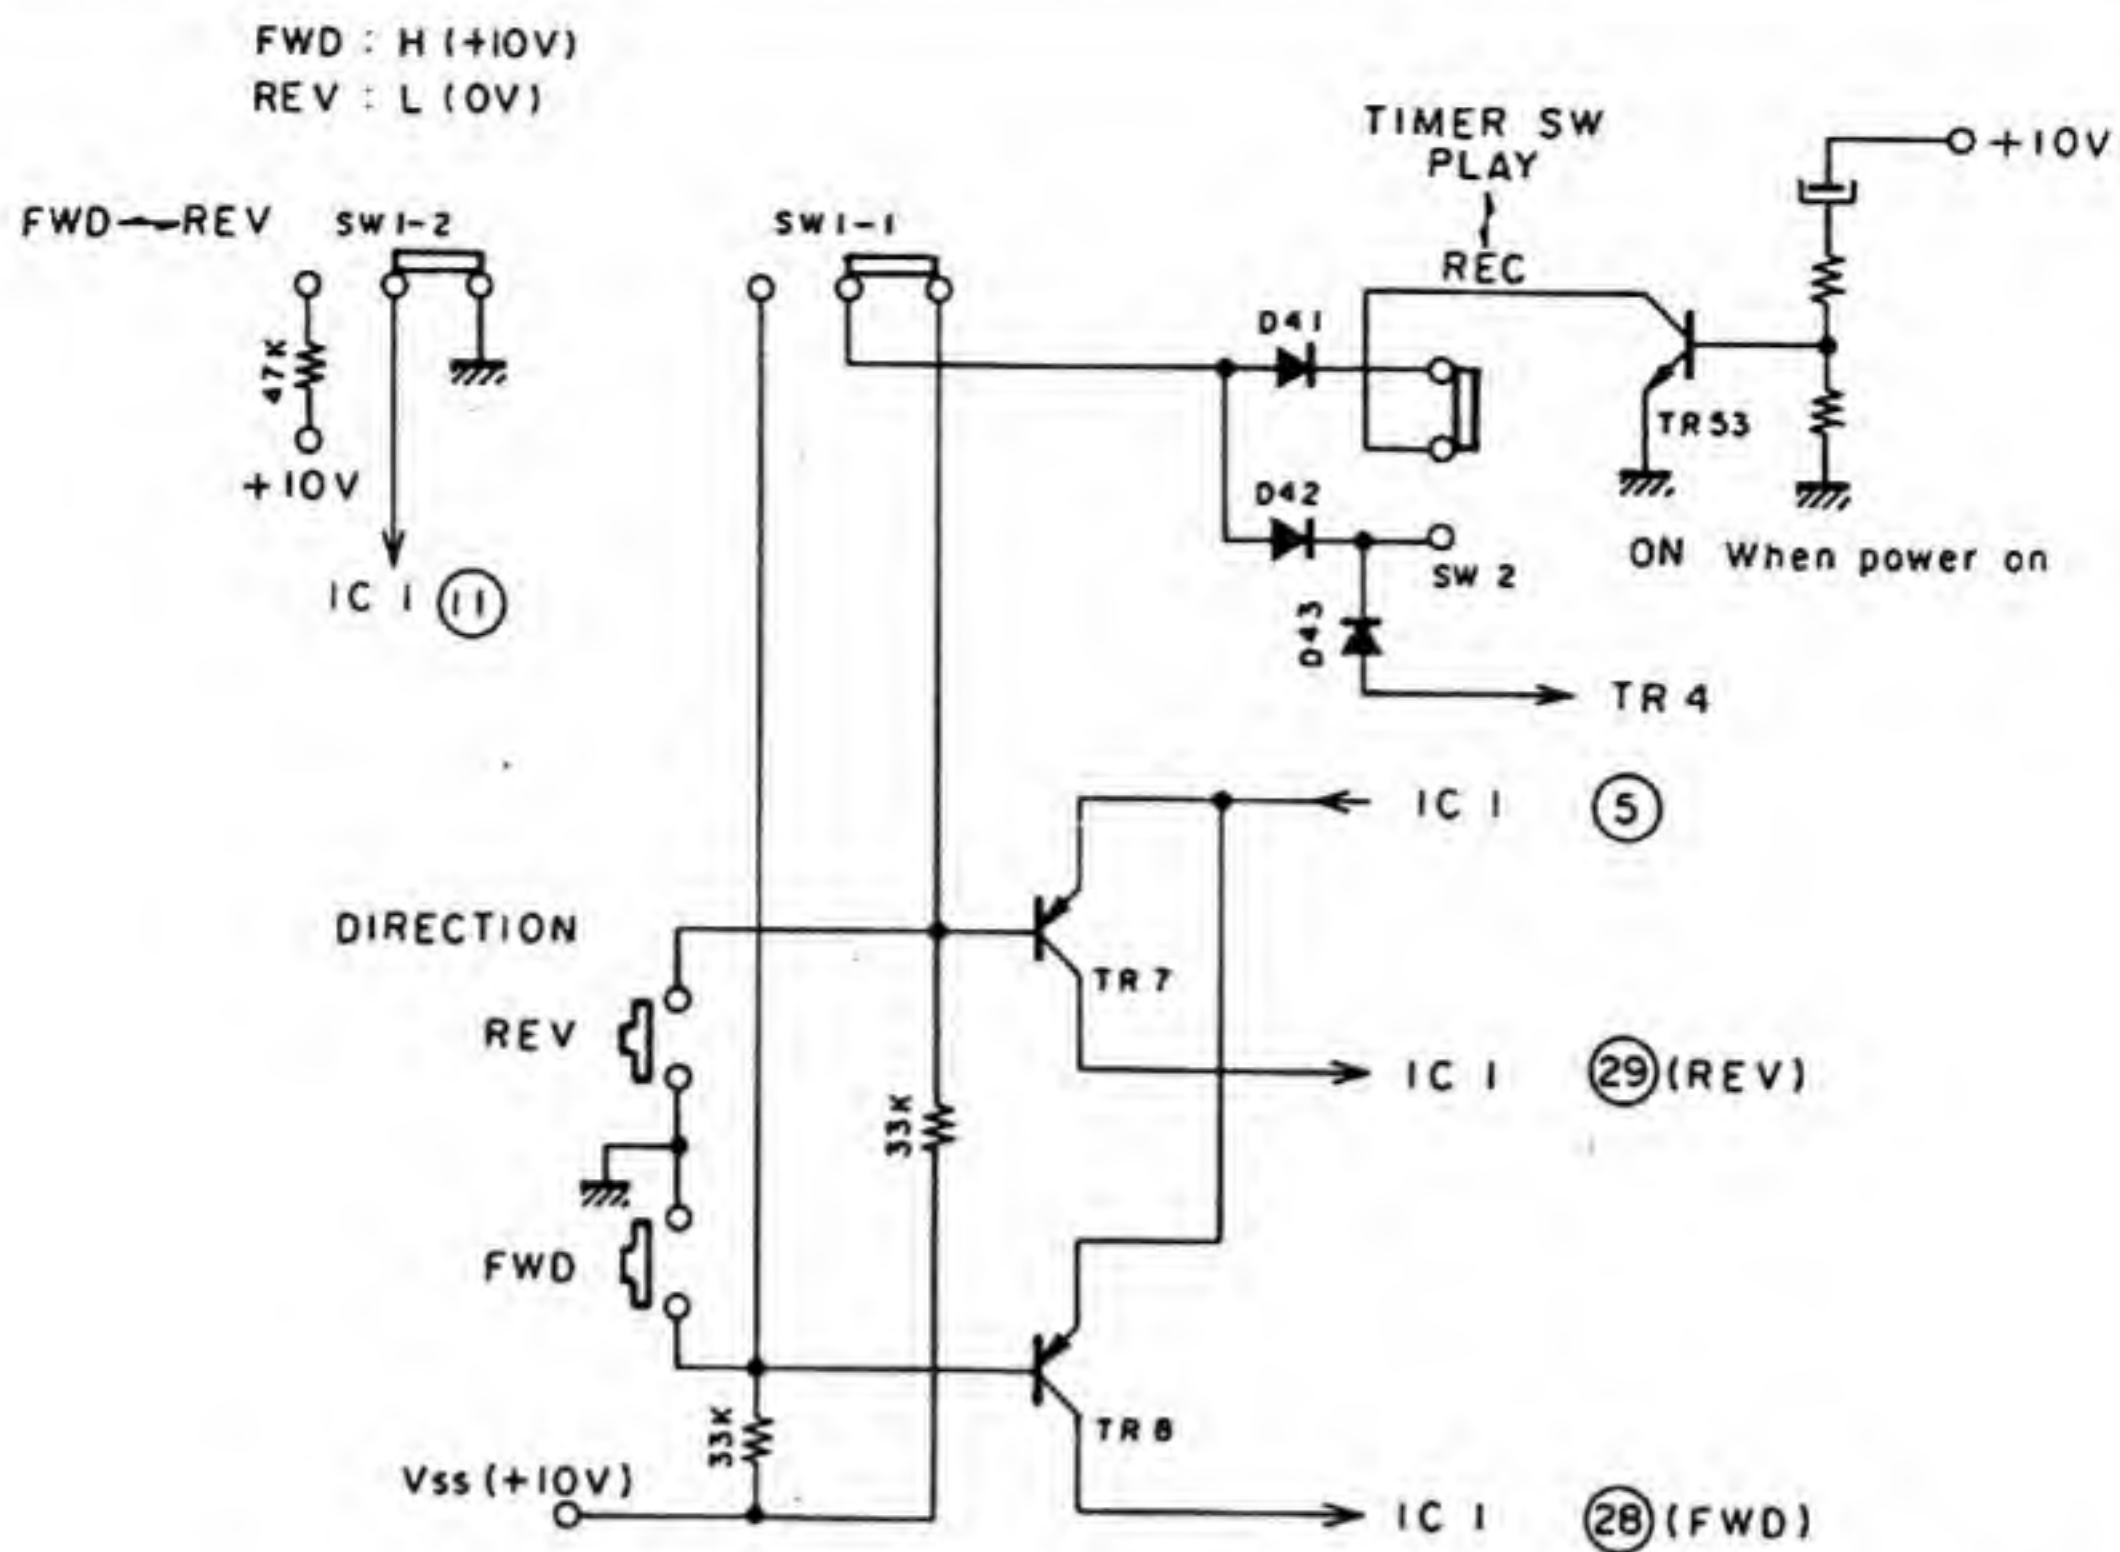

Fig. 21
11) FWD, REV Direction (Refer to Fig. 21)